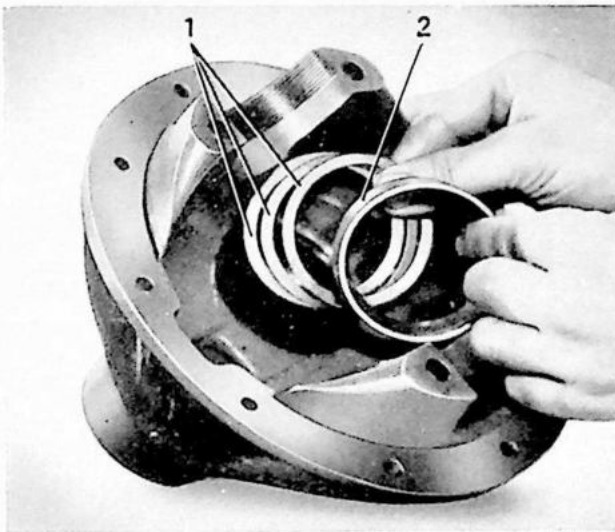

Fig. 16. Fitting shims.
1. Place in position the number of shims (28) which there were under the rear pinion bearing outer ring when disassembling, see fig. 16. Then press in the front and rear outer rings with press tool SVO 4047, see fig. 17. Ensure that the rings do not bind or come skew in the housing.